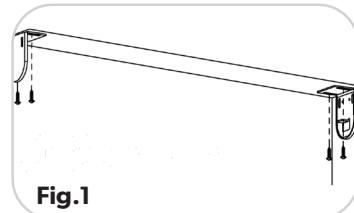

Fig.1
Please take a moment to review the parts list before beginning the steps below. Your Simple Lift™ Outdoor Roller Shade can either be hung from the top of a surface i.e. window frame, (Fig. 1) or side mounted on the inside surface of a wall, patio or porch. Regardless of how you choose to install the shade, the installation instructions remain the same.
- Install the mounting brackets to the top of a surface or inside of the surface area using the wood screws provided. (Fig. 1)